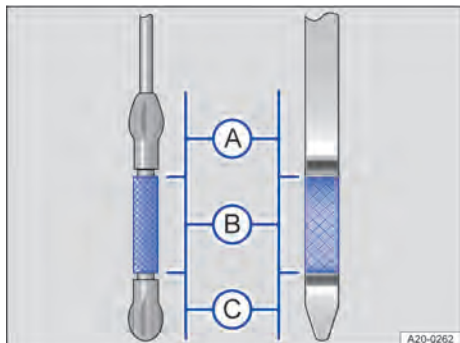
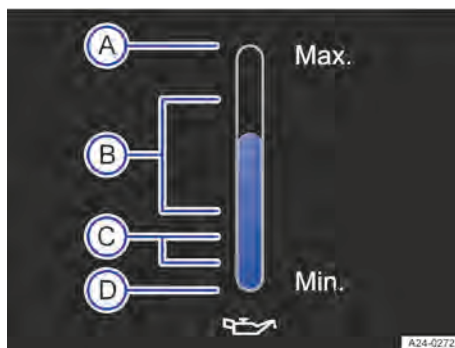

Fig. 210 Oil dipsticks with engine oil level marking (illustration).
Fig. 211 In the infotainment system: oil level display (illustration).
3. Pull out the oil dipstick again and read the engine oil level on the dipstick as follows → Fig. 210:
4. Read the engine oil level from the dipstick or the digital engine oil level display again before adding a further small quantity of engine oil. After filling, the engine oil level should be in the middle of the area → Fig. 210 or → Fig. 211 .
5. If too much engine oil has been added accidentally and the engine oil level is then above the area → Fig. 210 or → Fig. 211 , do not start the engine → . Seek expert assistance.